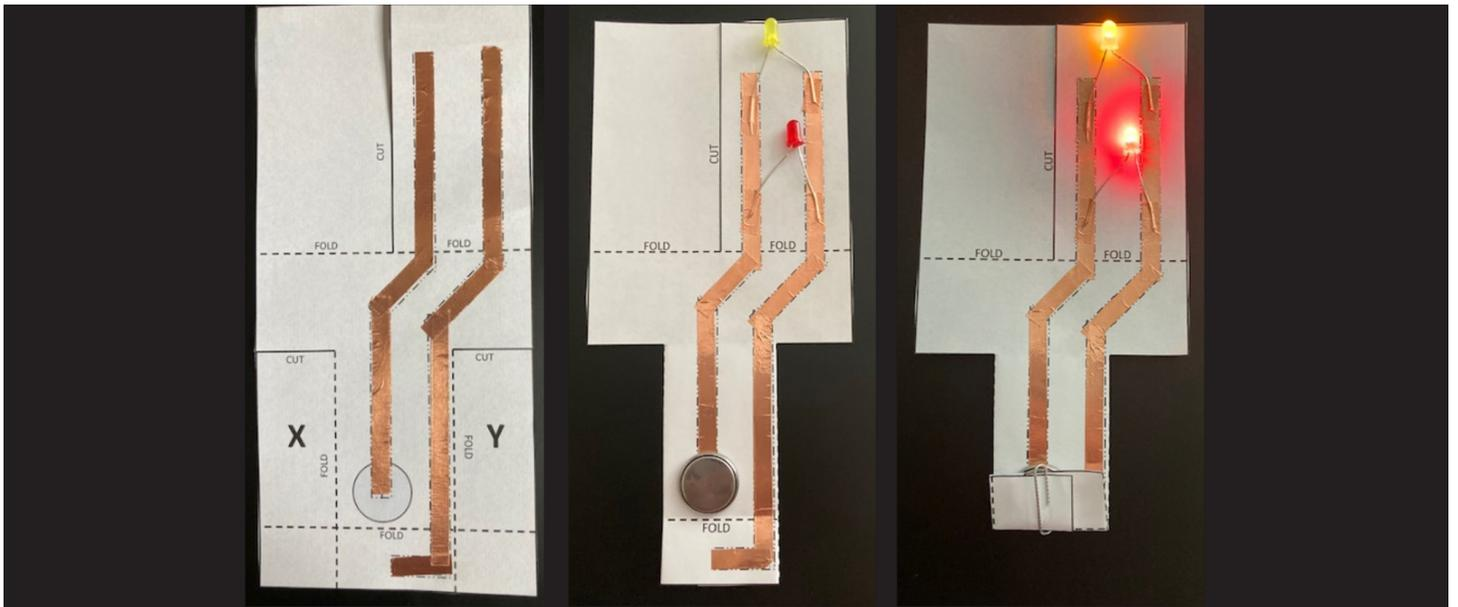

Figure 7. The different steps of making the paper helicopter are shown.
13. Put a paperclip or small binder clip on the bottom of the helicopter to help keep the circuit intact. *Figure 7* shows what your helicopter should look like for steps 4-13.